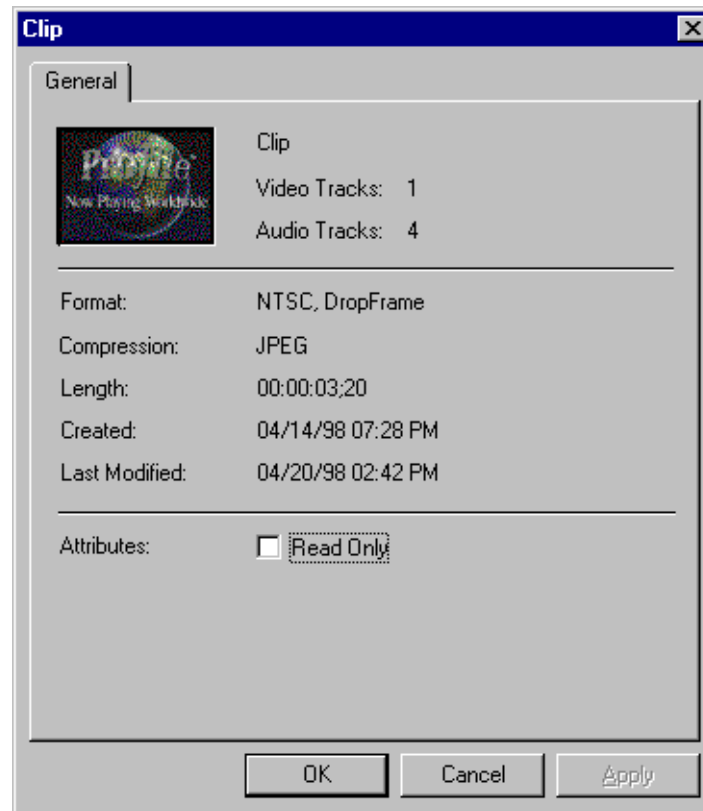

Figure 112. Properties dialog box
2. Choose **Properties** from the **Media** menu or from the shortcut menu with a right-click. You can also double-click the clip or master in the current bin. The Properties dialog box appears (see Figure 112).